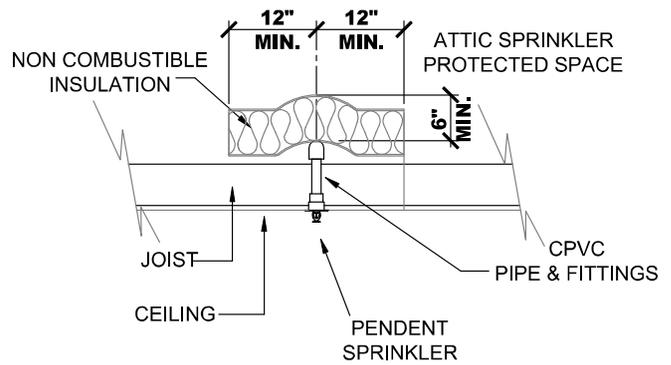

FIGURE 37A
- Pipe Running on Top of Bottom Chords: There must be 6 in. (152.4 mm) of non-combustible insulation covering the horizontal or vertical pipe extending 12 in. (304.8 mm) on each side away from the centerline of the pipe. Refer to Figure 37A.